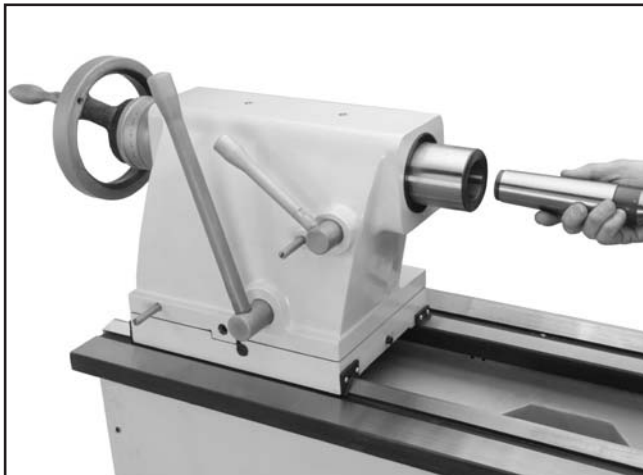

Figure 33. Inserting dead center.
2. Insert the dead center into the quill opening. Matching tapers provide the locking action (see **Figure 33**).